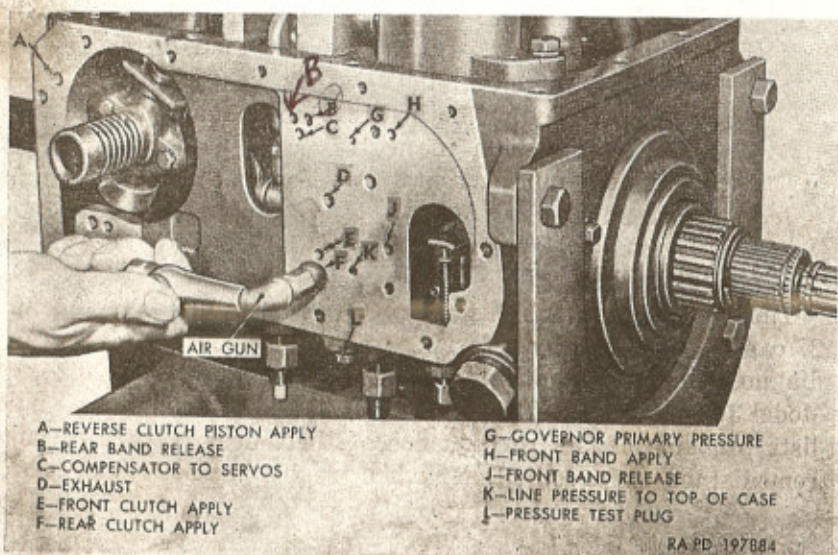

Figure 9. Location of passage holes for air-checking units with air gun assembly—B7950562.
The air gun assembly—B7950562 must be installed on an air hose connected to a source of compressed air of approximately 100 psi. Apply the rubber end of the gun firmly to the passage hole. Gun is equipped with an on-and-off button. Refer to figure 9 for location of passage holes and method of applying gun. Paragraph 31 itemizes the checks to make and diagnosis of each check.
a. Front Clutch Apply (E, Fig. 9).
- (1) Apply air pressure to passage E. Pressure should actuate front clutch. As pressure is intermittently ap-
- (2) If an unusual amount of air is escaping around oil delivery sleeve area, another check at passage E should be made after servos are removed (par. 66 or 67) to observe, more clearly, the point of leakage.
- (3) If a fog of oil is emitted from inside front of front drum, accompanied by escape of a great amount of air, leak is probably due to faulty front clutch piston seals.
- (4) Leakage from any other drilled passages inside of transmission case, while pressure is applied to passage E, is an indication of a faulty transmission case or oil delivery sleeve.
b. Rear Clutch Apply (F, Fig. 9).
- (1) Apply air pressure at passage F. Pressure should actuate rear clutch. As pressure is intermittently applied, movement of the clutch piston should be audible, and in most cases, can be felt by holding rear drum firmly with free hand.
- (2) If an unusual amount of air is escaping around oil delivery sleeve area, another check should be made at passage F after servos are removed (par. 66 or 67) to observe more clearly the point of leakage.
- (3) If a fog of oil is emitted from inside rear unit drum assembly accompanied by escape of a large amount of air, leak is probably due to faulty clutch piston seals or oil delivery sleeve rings.
- (4) Leakage from any other passage on side of case, while pressure is applied at passage F, is an indication of faulty transmission case (interconnected passages) or oil delivery sleeve.
c. Front Band Apply (H, Fig. 9).
- (1) Apply air pressure to passage H. Pressure should actuate the front servo with no unusual escape of air.
- (2) Observe area around flat surface of servo body that rests on case. No appreciable escape of air should be noticed at this point.
- (3) A small amount of leak from exhaust hole in front servo body and from passage at J is permissible. However, leak from hole at point J should not be an open blow-by, but only amount that would leak past servo apply piston ring gap.
d. Front Band Release (J, Fig. 9). Apply air pressure to passage J. Pressure will not actuate servo because servo apply
e. Rear Band Release (B, Fig. 9).
- (1) Apply air pressure to point B. Pressure should release the rear servo and band with no unusual escape of air. A small amount of air will escape through piston ring gaps but this should not be enough to impair normal servo operation.
- (2) Observe area where rear servo body rests on case. There should be no appreciable amount of air escape at this point.
- (3) Check for leakage at other passage holes at side of case while applying air to point B. While a small amount of air may be emitted from passage at point C, blow-by from any other passage holes indicates interconnected passages in case, necessitating replacement of case.
f. Compensator to Front and Rear Servos (C, Fig. 9).
- (1) Apply air pressure to point C. Pressure should actuate rear servo to tighten rear band which is applied by spring pressure, and to actuate front servo to apply front band.
- (2) No appreciable amount of air should escape from either front or rear servo, or any other passages on side of case except that which may escape through piston ring gap.
g. Reverse Clutch Piston Apply (A, Fig. 9).
- (1) Apply air pressure to passage A. Pressure should actuate the reverse clutch piston. As pressure is intermittently applied, movement of the clutch piston should be audible. In most cases, movement can be felt by holding the reverse internal gear with free hand.
- (2) If an unusual amount of air is heard escaping around the clutch piston, the outer and/or inner seal on piston is leaking.
h. Line Pressure to Top of Case (K, Fig. 9). Apply air pressure to passage K. Pressure applied to this passage should produce no leaks if pressure test plug (L) is tight.
i. Exhaust (D, Fig. 9). Apply air pressure to passage D. Pressure should be a complete blow-by to inside of case. Remove gun from passage and visually inspect passage to be sure that
j. Governor Primary Pressure (G, Fig. 9). Apply air pressure to passage G. No air escape should be noticeable between servo body and transmission case, or from any passage in side of the case, except possibly a small amount from passage J.
b. Disconnect transmission control linkage (fig. 9 or 11) as described in (1) through (4) below.